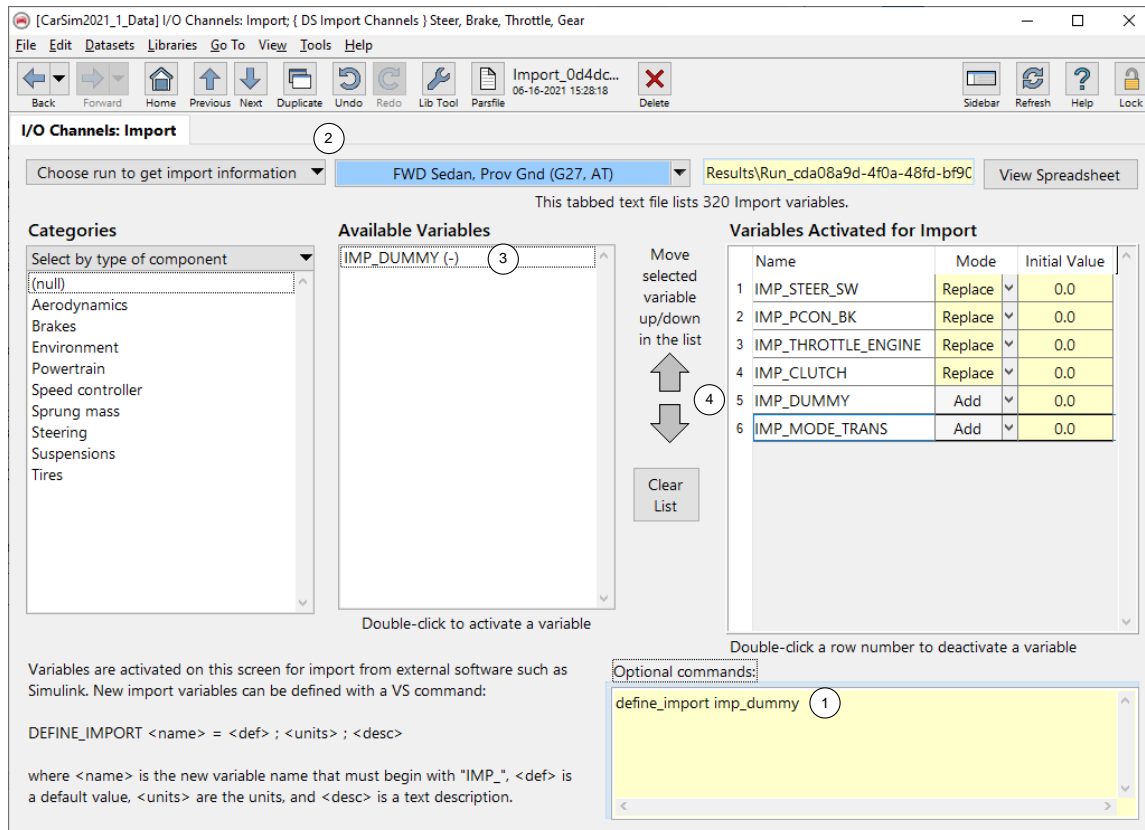

Figure 28. Windows DS Import Array with Dummy Import when used with HEV / EV vehicles.
2. In the Misc. yellow field, type: `define_import imp_dummy` (Figure 28, ①).
3. At the top of the screen, use the drop-down menu to select the Windows DS **Run Control** dataset associated with this **I/O Channels: Import** dataset (②). This will generate a new